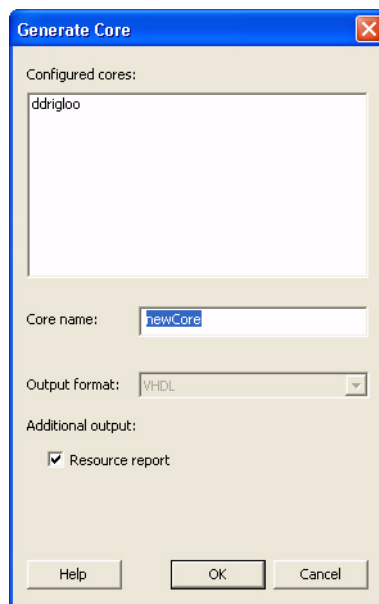

Figure 13-5 • Generate Core Window
- Once the desired configuration is selected, click the **Generate** button. The Generate Core window opens (Figure 13-5).